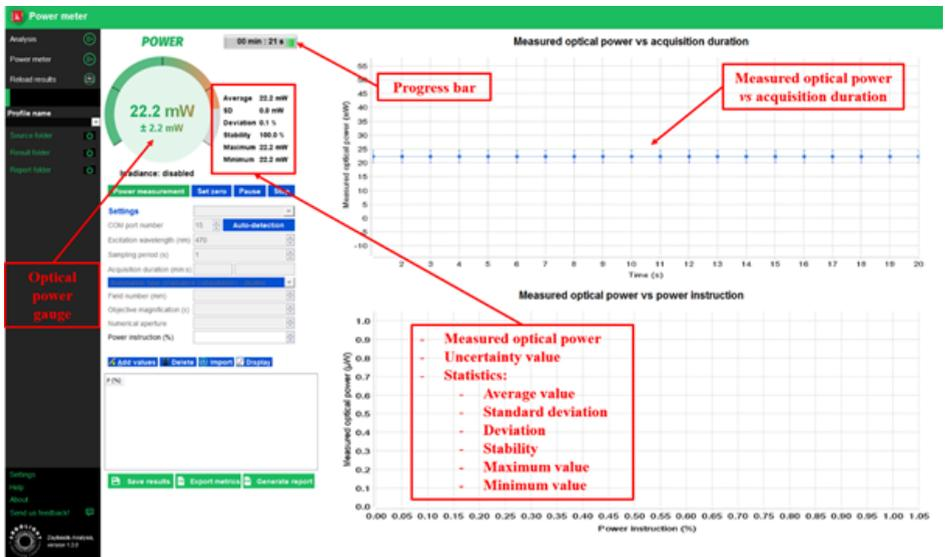

Fig.24: Live optical power measurement.
- Adjust the focus until the highest optical power is measured. This indicates that the sensor is at the focal plane of the microscope objective (cf. Figure 24).